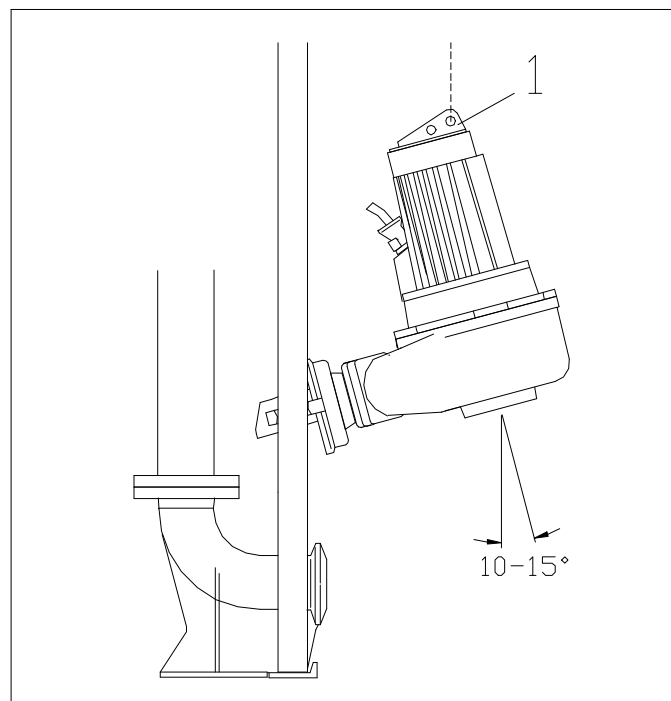

Fig. 6.4
- The installation angle must be about 10-15° (see Fig. 6.4). If necessary, this angle can be changed by alteration of the position of the lifting hook on the suspension bracket on top of the motor (pos. 1)